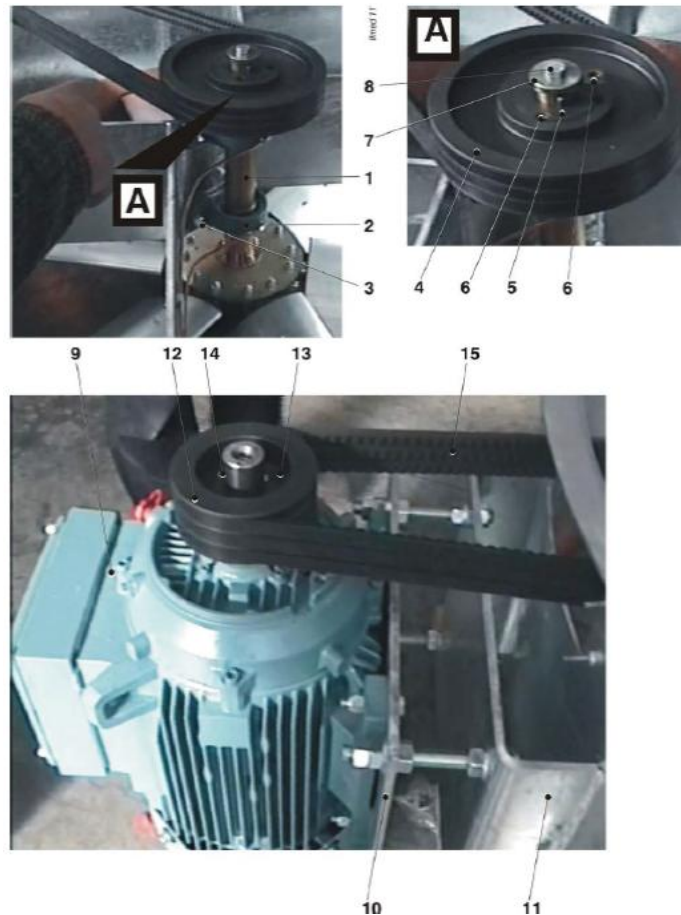

Figure 2-3: Impeller installation of the GFF-01 / GFF-04 / TFF-09 / TFF-12 fan series.
1. Install the transmission shaft (1, Figure 2-3) inside the two bearing supports (2), securing both with the respective couple of screws and washers (3). If the unit has been supplied with "MONOBLOCK", install the same, taking care to respect the indications given on it with regard to the indications of "pulley side" and "impeller side".
2. Install the transmission shaft (2, Figure 2-3) inside the two bearing supports (3), securing both with the respective couple of screws and washers (4). If the unit has been supplied with “MONOBLOCK”, install the same, taking care to respect the indications given on it with regard to the indications of "pulley side" and "impeller side".